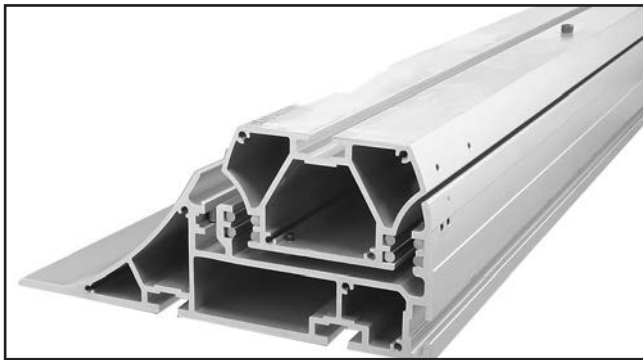

Figure 16. Sliding table turned upside down.
1. Turn sliding table upside down, as shown in **Figure 16**.